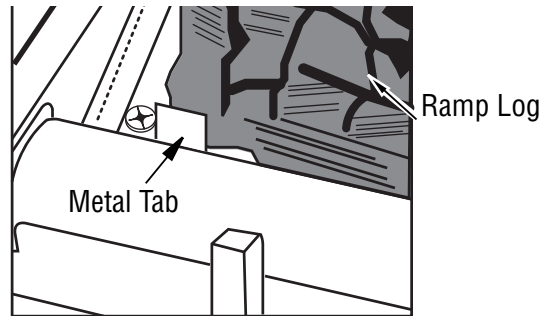

Figure 25 - Installing Log Set
2. The log must sit flat on the black sheet metal and behind the left metal tab as shown in **Figure 25**.